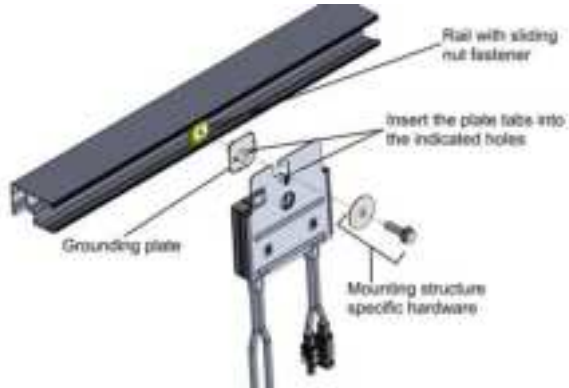

Figure 6: Power optimizer installation and grounding using a grounding plate
- For mounting on rails with sliding nut fasteners:** If the star washer cannot be used, use the SolarEdge grounding plate (purchased separately) between the railing and the flat side of the mounting bracket. Use mounting specific hardware as needed. Apply a torque of 9.5 N*m / 7 lb*ft. See Figure 6.